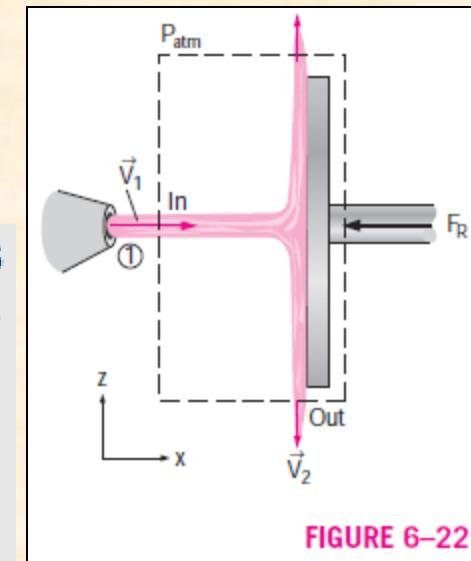

FIGURE 6–22
**Example2:** The Force to Hold a Deflector Elbow in Place A reducing elbow is used to deflect water flow at a rate of 14 kg/s in a horizontal pipe upward 30° while accelerating it (Fig. 6–20). The elbow discharges water into the atmosphere. The cross-sectional area of the elbow is 113 cm2 at the inlet and 7 cm2 at the outlet. The elevation difference between the centers of the outlet and the inlet is 30 cm. The weight of the elbow and the water in it is considered to be negligible. Determine (a) the gage pressure at the center of the inlet of the elbow and (b) the anchoring force needed to hold the elbow in place. The momentum flux correction factor ( $\beta$ )=1.03
**Example 5: Water Jet Striking a Stationary Plate;** Water is accelerated by a nozzle to an average speed of 20 m/s, and strikes a stationary vertical plate at a rate of 10 kg/s with a normal velocity of 20 m/s (Fig. 6–22). After the strike, the water stream splatters off in all directions in the plane of the plate, and  $\beta=1$ . Determine the force needed to prevent the plate from moving horizontally due to the water stream.